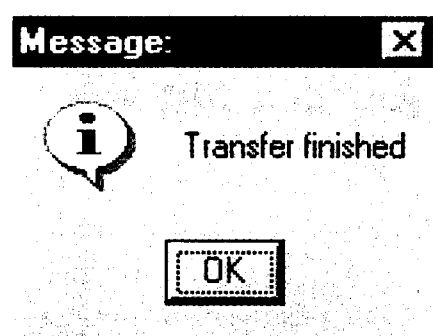

Figure 6: Transfer completed successfully.
- 6) The message window in Figure 6 completes the transfer.